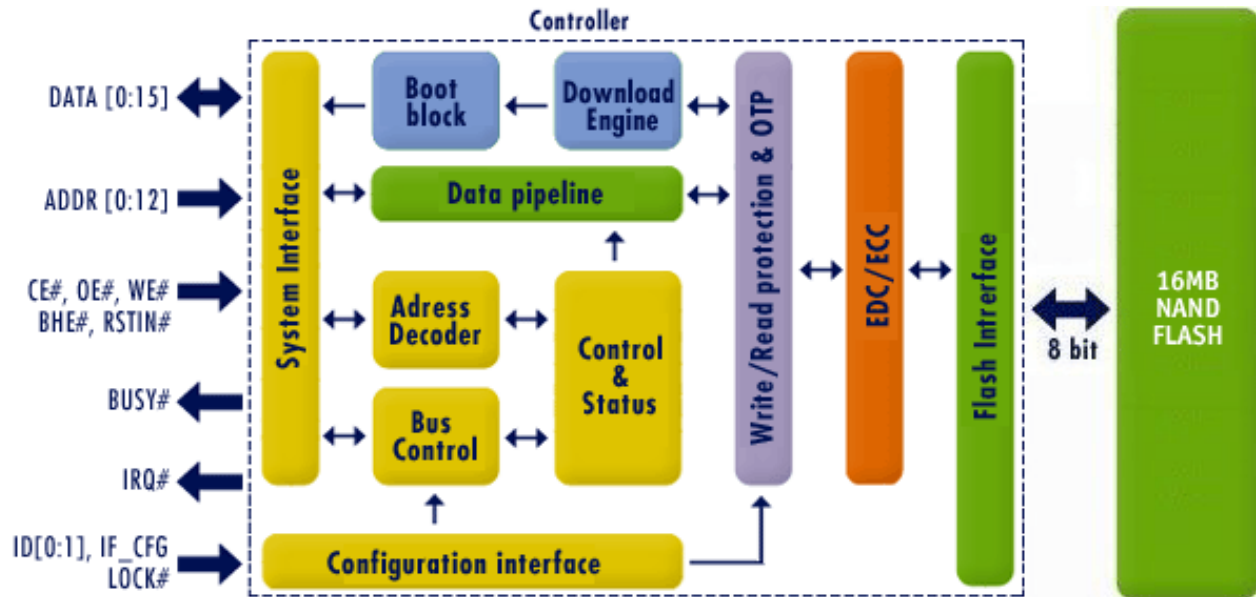

Figure 5: Standard Interface Simplified Block Diagram
Mobile DiskOnChip Plus consists of the following major functional blocks, as shown in Figure 5.
- **Programmable Boot Block** with XIP capability enhanced with a **Download Engine (DE)** for system initialization capability.
- **Flash Interface** consists of a single 16MB NAND flash array (Figure 5). Mobile DiskOnChip Plus achieves a 32MB capacity using two stacked 16MB devices in a dual-die package.